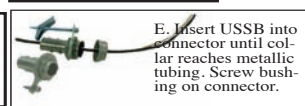

**Fig.7** You may use Electrobits Passthru, General bushings or Strait connectors with USSB and GE TETRA led wiring.
**Figure 7** Slide USSB over WB3760 and GTO cable.. If necessary, Slide support ring over assembly and use metallic self tapping screw to hold assembly in place on wall or ceiling.